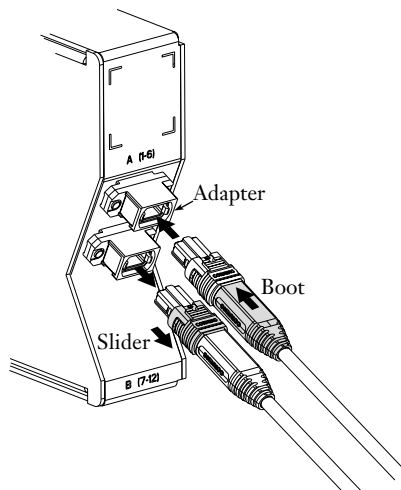

Figure 3
- b) To install the connector, grasp the connector by its boot which is marked “push.” Align the key in the connector with the slot in the adapter and push the connector until it clicks in place (Figure 3).